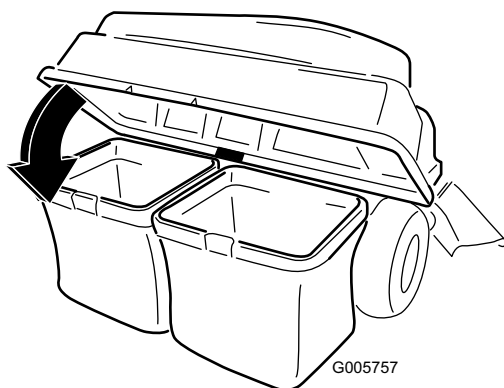

Figure 9
3. Lower the bagger top onto the bag (Figure 9).